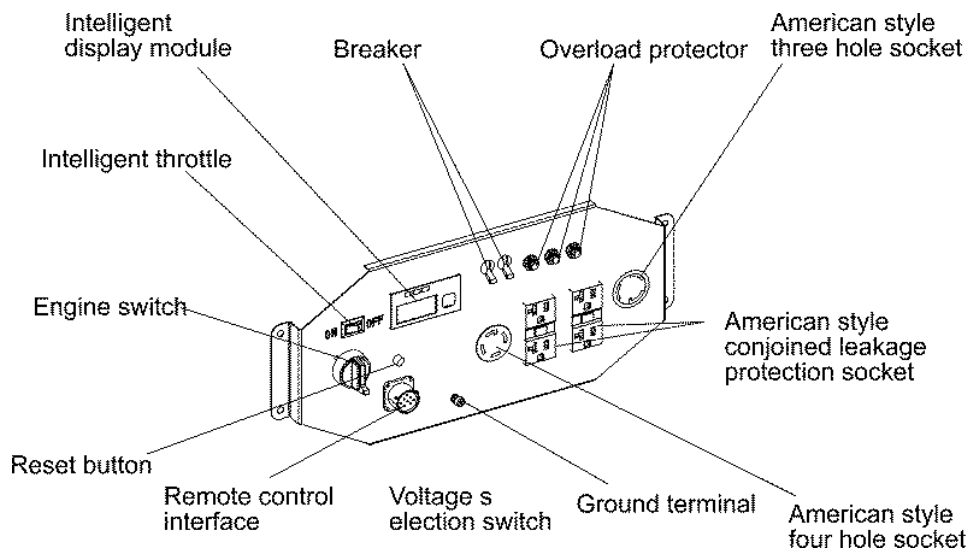

Figure 5
2.5 Control panel (See figure 5)